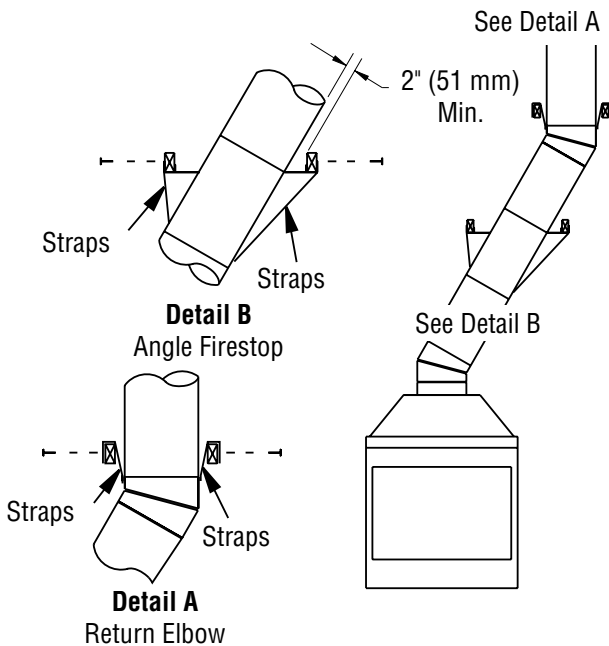

Figure 9 - Ceiling Support Pipe 12S-12DM
2. Chimney weight above offset rests on return elbow. Straps must be securely nailed to rafters or joists (see Figure 9, details A and B).